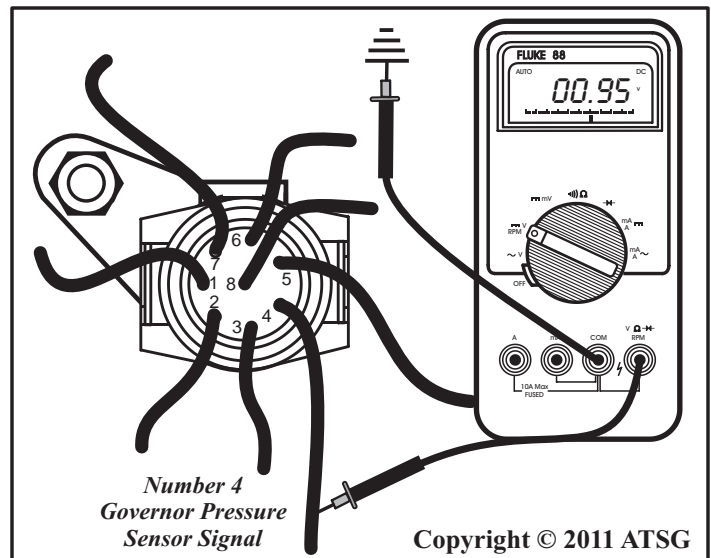

Figure 51
(c) Once oriented to the case connector and vehicle harness connector, locate terminal number 4 and connect the vehicle harness back onto the case connector. With your DVOM set on DC volts, place the negative lead to a known good ground. Carefully backprobe into wire number 4 with the positive lead, as shown in Figure 51.
**(Example:)** Pressure gauge indicates 12 psi, at 0 MPH, while the sensor voltage indicates .95 volts. This example shows that the sensor is okay (See Figure 51).